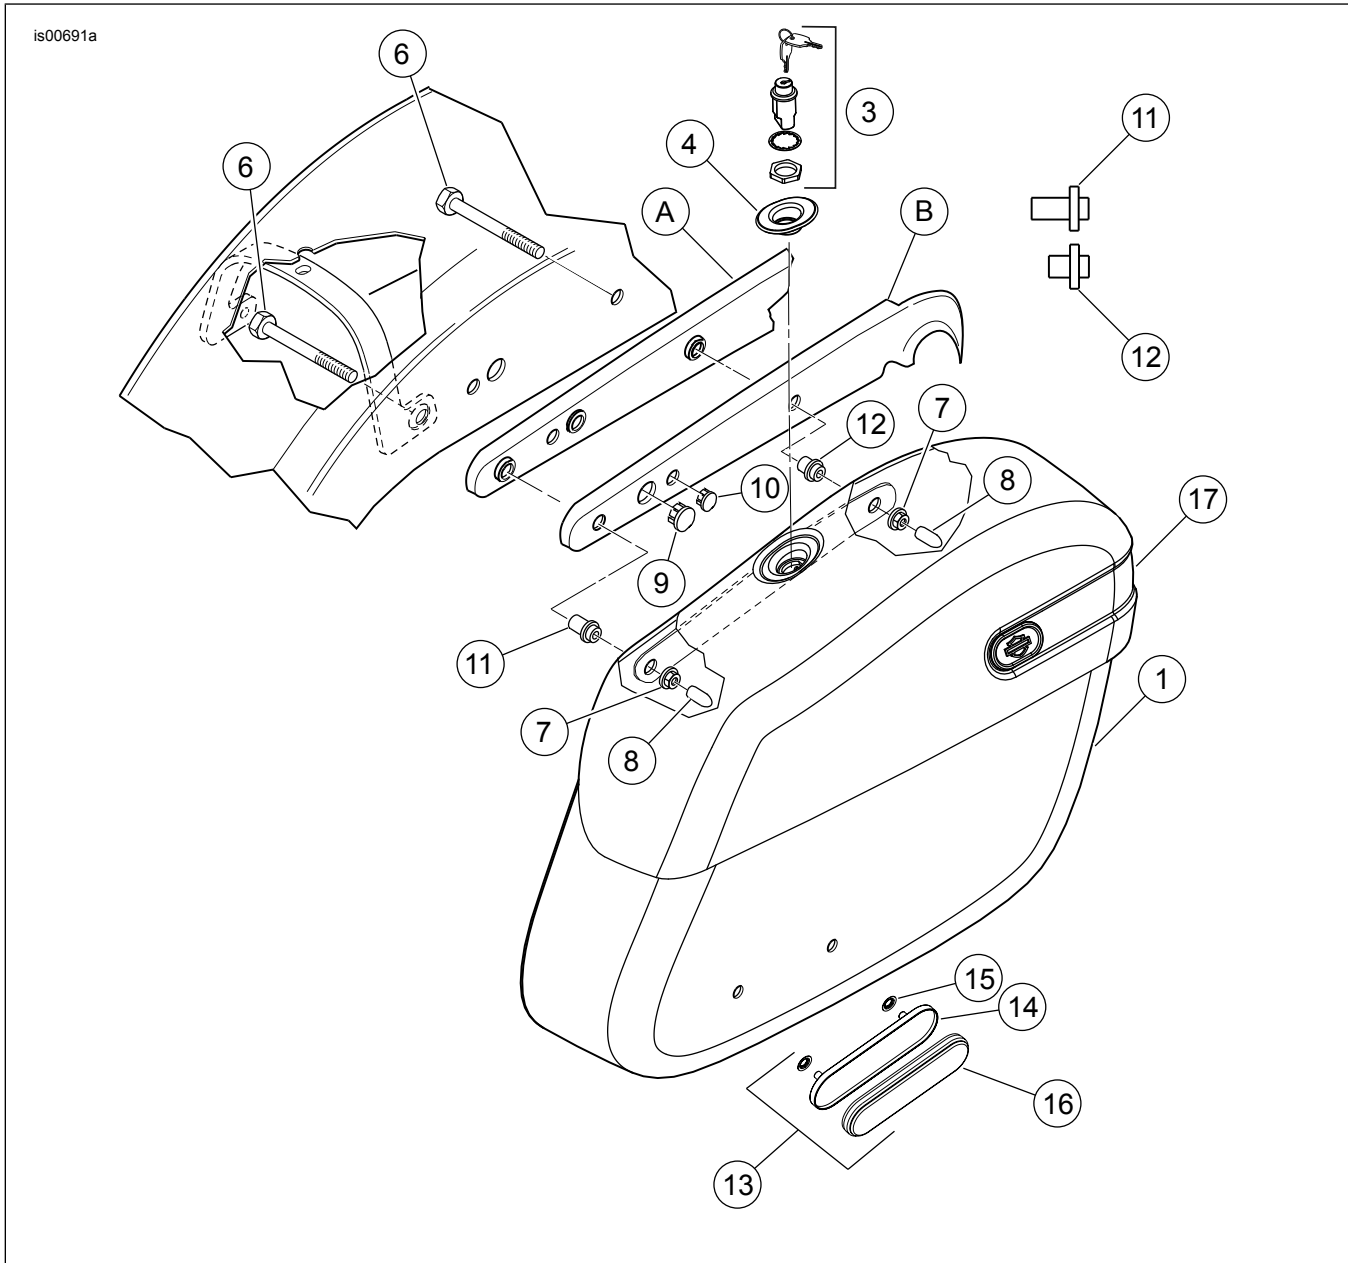

Figure 2. Service Parts: Sportster Rigid Leather Saddlebag Kit (right side shown)
See Figure 2 and Table 1.
5. See Figure 2. From the underside of the fender, install two bolts (6) from kit through the fender and into the fender support (A) and cover (B), where the two button head screws were previously removed in Step 3.
6. Install the short bushing (12) onto the front bolt (short end toward saddlebag) and the long bushing (11) onto the rear bolt (short end toward saddlebag).
8. Thread flange locknuts (7) to bolts on the inside of the saddlebag. Tighten both flange locknuts to 24-27 ft-lbs (33-37 Nm).
9. Install a thread protector cap (8) onto each of the bolt ends.
2. See Figure 2. Position reflector mount (14) on saddlebag.
7. Install reflector mount (14) on saddlebag using two push nuts (15).
8. Remove backing from adhesive on reflector (16) and install on mount (14).